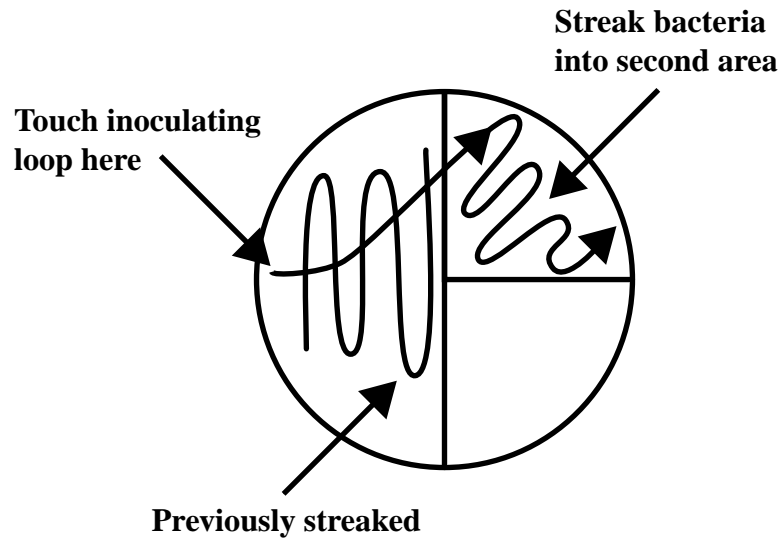

Figure 5.5: Touch the loop to the area previously streaked and then move the loop across the agar as shown.
7. Replace the lid of the petri dish and flame the loop again to kill any remaining bacteria on it. Rotate the plate 90 degrees counterclockwise. Carefully lift the lid slightly and touch the loop into the left side of the plate which contains the area you streaked in the previous step. Move the loop across the surface of the agar until it is in the smaller section in the upper right of the plate. Within that quarter of the plate, move the loop back and forth across the agar surface (Figure 5.5).